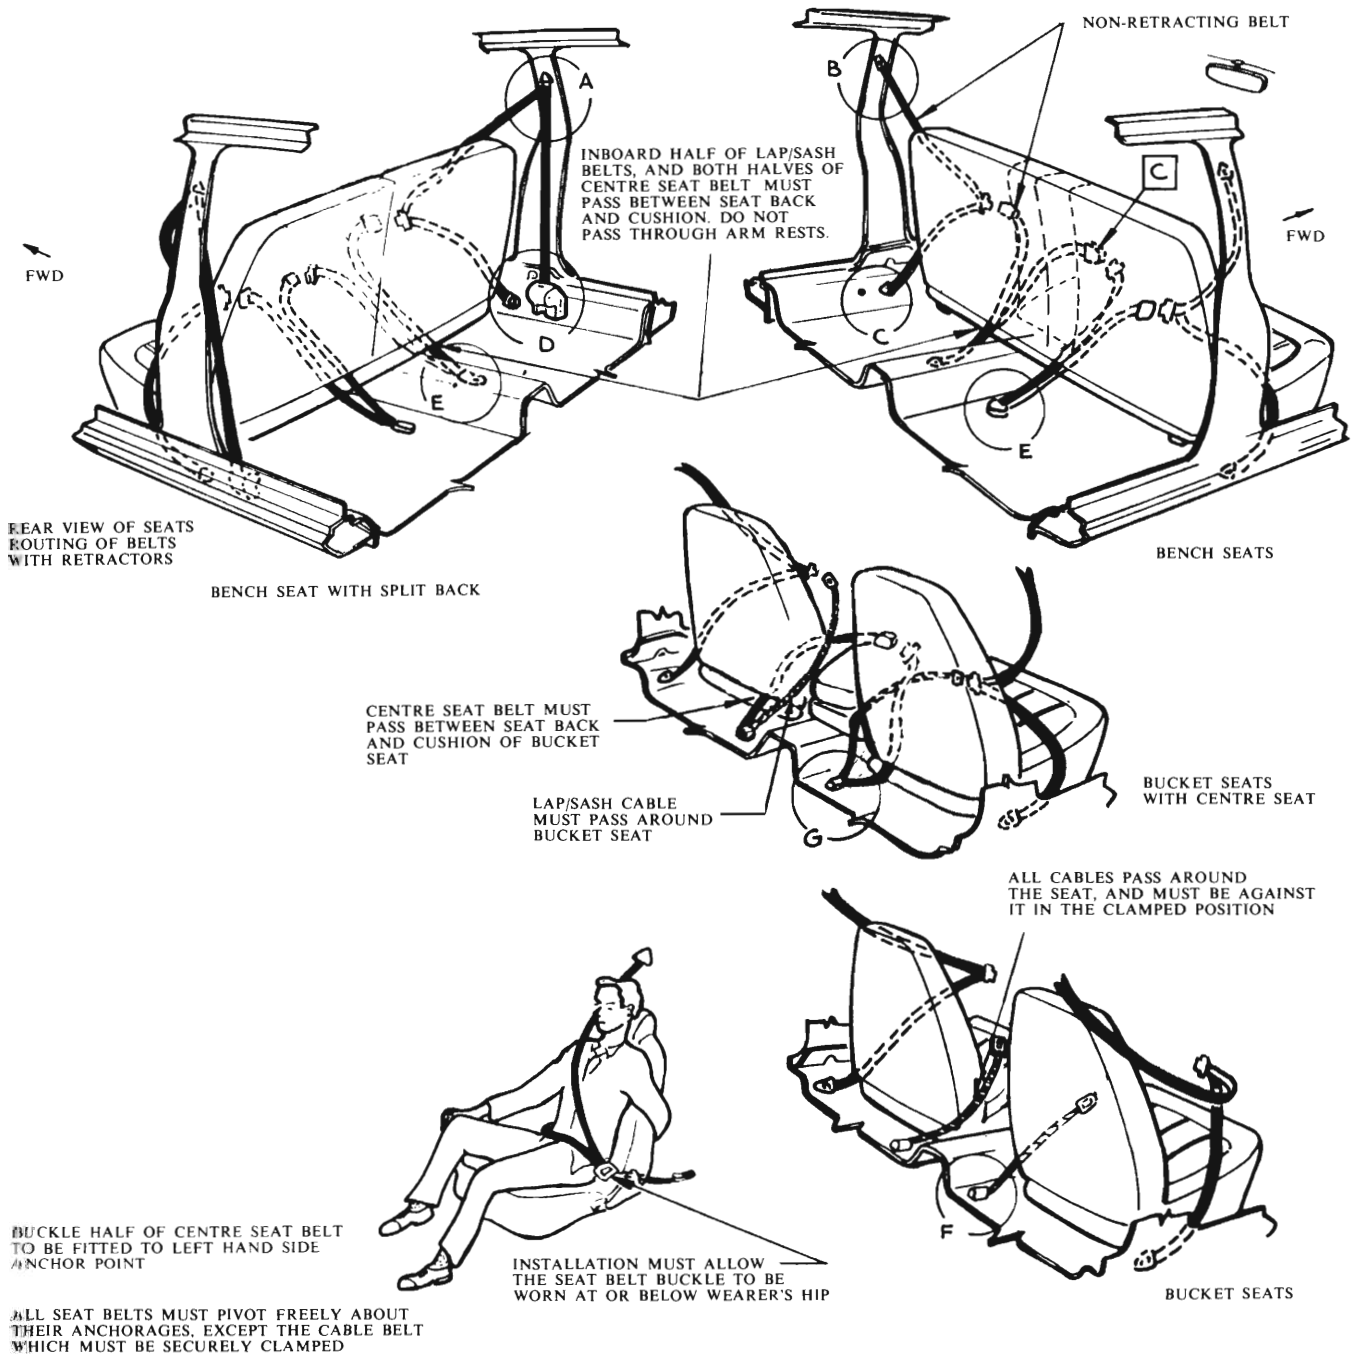

Fig. 60 - Front seat belts fitting instructions
(1) For seat belt fitting instructions, refer to Figs. 60 to 62.
(2) Whenever fitting the seat belts, ensure that they are adjusted so that the webbing that passes across the wearer's body is not twisted and that the seat belt buckle is at or below the wearer's hip.
(3) Ensure that the inboard half of lap/sash belts and both halves of the centre seat belt pass between seat back and cushion. DO NOT pass through arm rests.
(4) The buckle half of centre seat belt is to be fitted to the left hand side anchor point.
(5) All seat belts must pivot freely about their anchorages except the "cable" belt which must be securely clamped.
(6) The lap/sash seat belts with "cable" belt must pass around the bucket seat and be against it in the clamped position.
(7) All seat belt securing bolts are to be torqued to 35 lbs. ft.  $\pm$  5 lbs. ft.